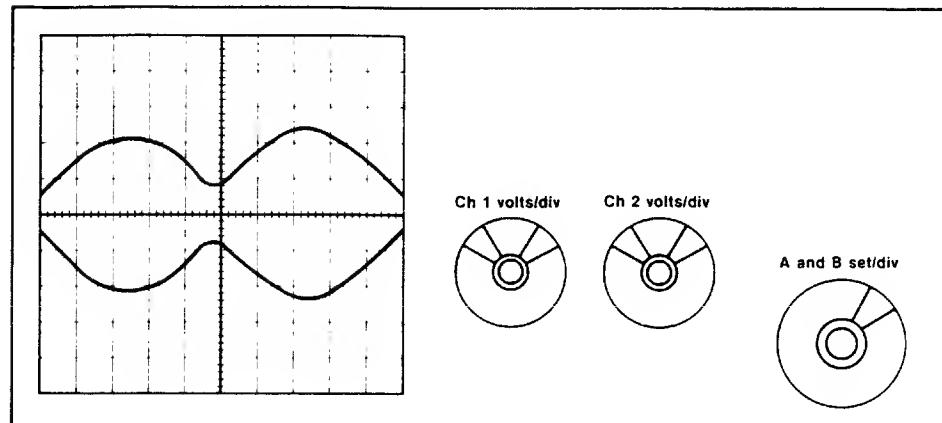

FIGURE 8-55. CAT-EYE PATTERN
- 8.3.3.6 Observe cat-eye pattern on oscilloscope. Shape and amplitude of cat-eyes should be within 80% of each other (Figure 8-55).